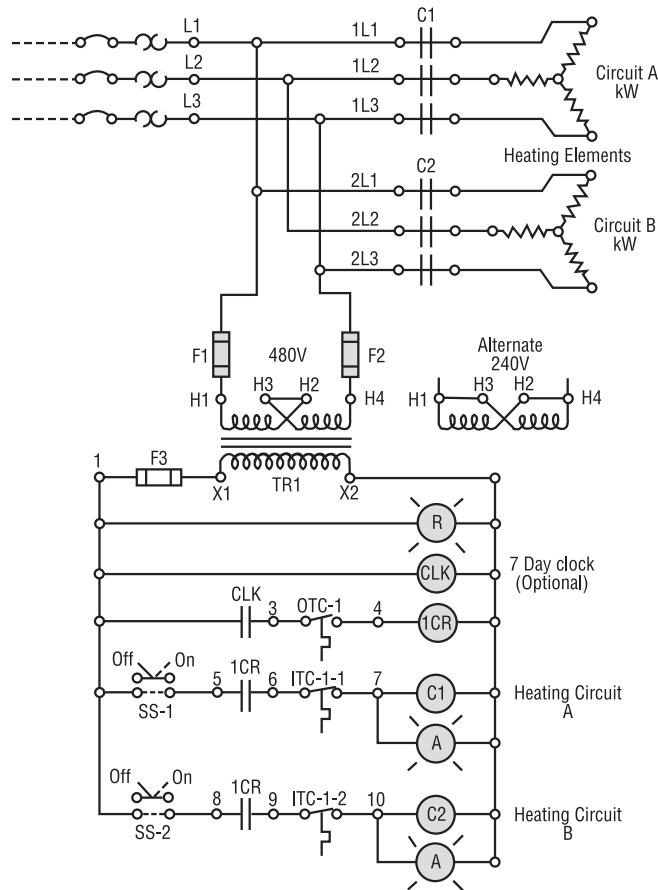

Figure 2
2. The Unitary Immersion Heaters's internal wiring is per the typical wiring diagram (Figure 2) with the kW loads being tabulated in Table 2.